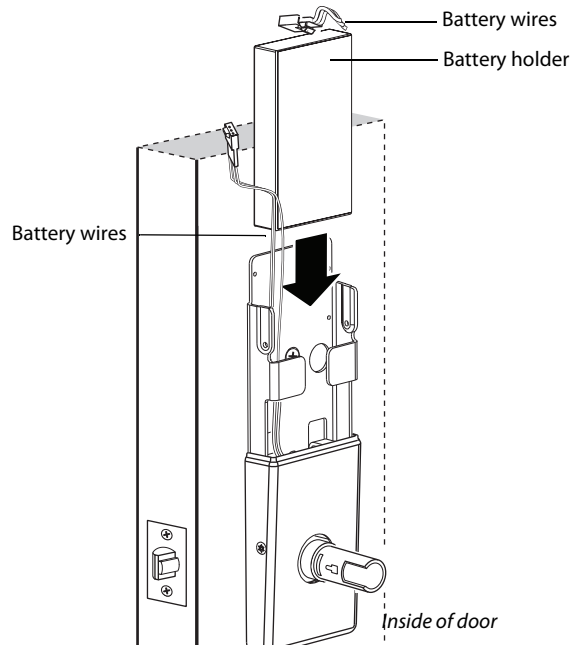

Figure 18 Installing the battery holder, 8-cell shown
- 1 Position the battery wires against the fire plate side wall, as shown in Figure 18.